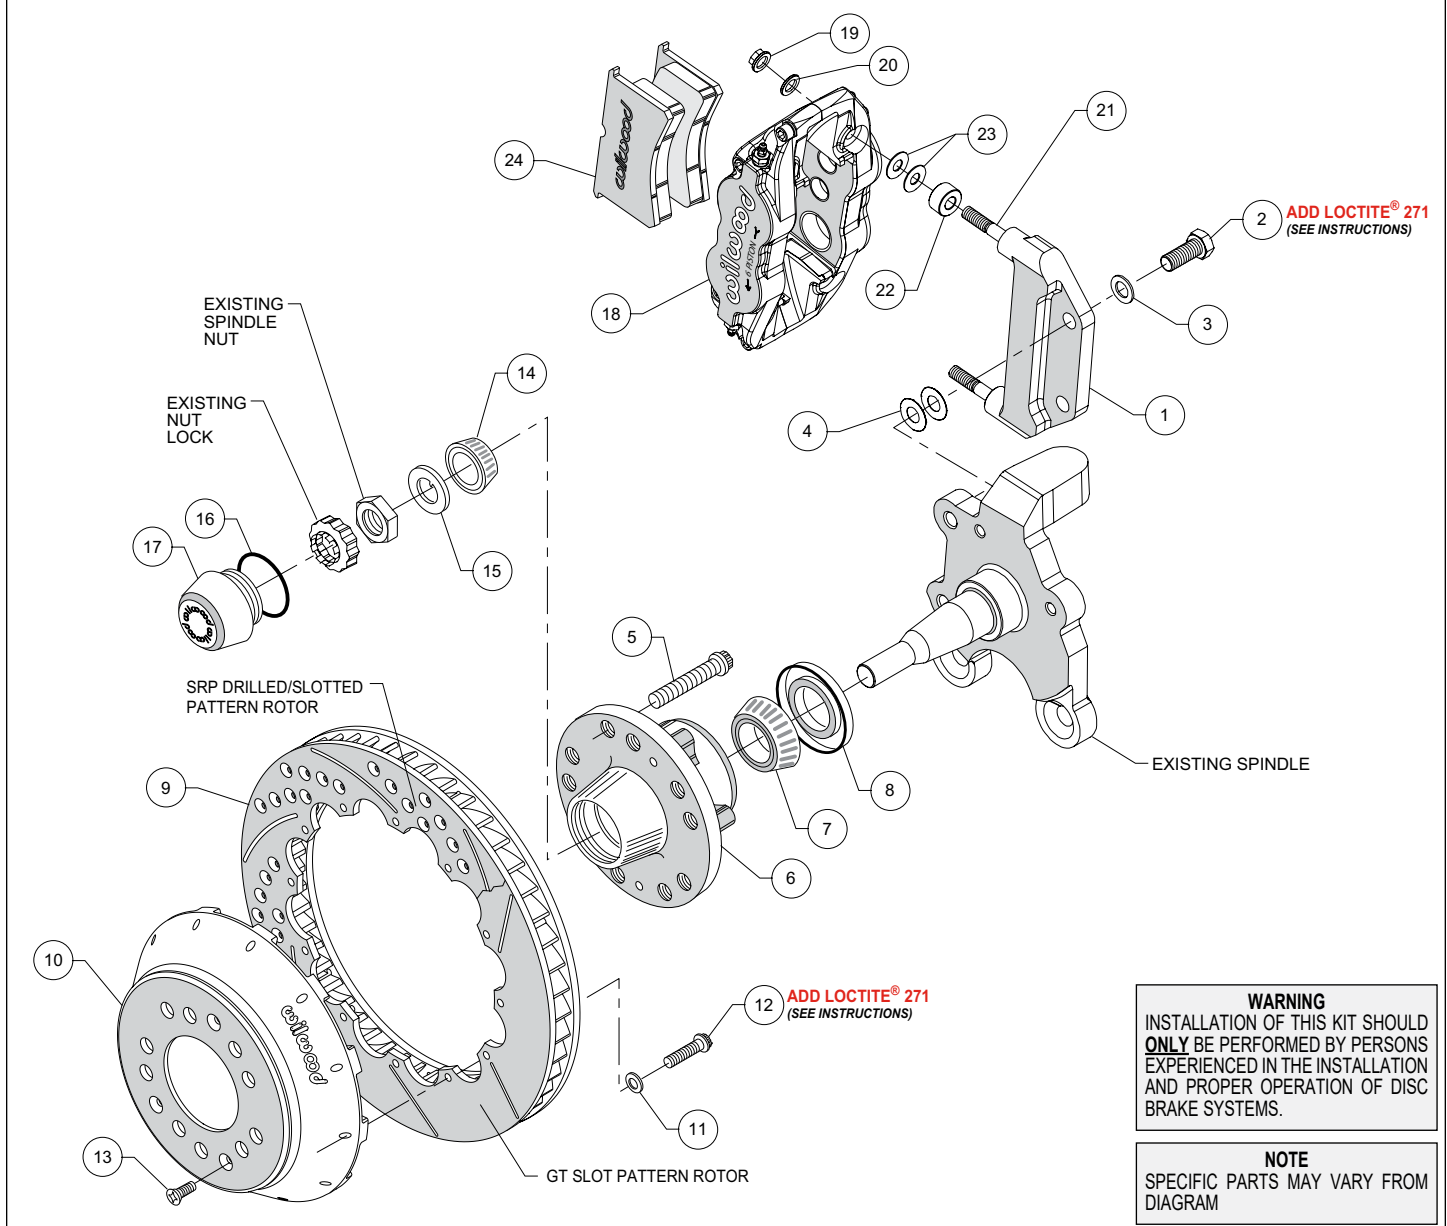
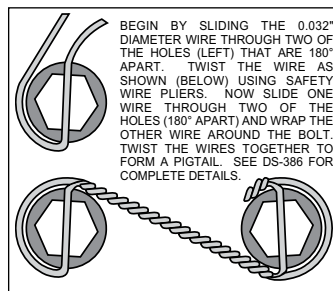

Figure 1. Typical Installation Configuration
Figure 3. Safety Wire Diagram
NOTE: Numbers in parenthesis refer to the parts list and Figure 1 on the preceding pages.
- The caliper mount bracket (1) should initially be installed with clean, dry threads on the mounting bolts. Orient the bracket as shown in Figure 1, and install using bolts (2) and washers (3). Initially place two .015" thick shims (4) on each bolt between the bracket and upright, Figure 1 and Photo 1. Temporarily tighten the mounting bolts. **NOTE:** The bracket must fit squarely against the mount bosses on the upright. Inspect for interference from casting irregularities, machining ridges, burrs, etc. Later, after the caliper alignment has been checked, the mount bolts will be secured using red *Loctite*® 271.
- Install wheel studs (5) into the hub (6), Photo 2. Torque to 77 ft-lb. **NOTE:** There are two five lug patterns in the hub (5 x 4.50 and 5 x 4.75). Ensure the correct hub stud pattern is being used to fit the wheel application.
- Pack the large inner bearing cone (7) with high temperature disc brake bearing grease (available from your local auto parts store) and install into the backside of the hub (6), Photo 3.
- Install the grease seal (8) by pressing into the backside of the hub (6), flush with the end of the hub, Photo 3.
- Orient the rotor (9) and the hat (10) as shown in Figure 1 and Photo 4. Attach rotor to hat using bolts (12) and washers (11). Apply red *Loctite*® 271 to the bolt threads and torque to 155 **in-lb** using a criss-cross pattern. For an added measure of security, the bolts may be safety wired using standard 0.032 inch diameter stainless steel safety wire as shown in Figure 3. Refer to Wilwood's data sheet DS-386 (available at www.wilwood.com/Pdf/DataSheets/ds386.pdf) for complete safety wire installation instructions.
- Pack the small outer bearing cone (14) with high temperature disc brake bearing grease and install into hub (6). Slide the hub assembly onto the spindle. Secure using spindle washer (15) and OEM spindle nut, Photo 5. Adjust bearings per OEM specifications. Install saved OEM nut lock (if any) and a new cotter pin (not included).
- Screw dust cap (17) into hub (6), Photo 6. Friction created by the o-ring (16) on the dust cap keeps it from unscrewing. **NOTE:** The O.D. of the existing OEM spindle washer may be larger than the I.D. of the dust cap not allowing it to seat against the hub face. Therefore, use the spindle washer (15) supplied with the kit instead of the OEM washer.
- Slide the hat/rotor assembly (9/10) onto the hub (6) taking care to align the small countersunk holes in the hat with the small threaded holes in the hub. **NOTE:** The hat must fit flush against the hub face or excessive rotor run out may result. Install three flat head screws (13) through the small holes in the hat, Photo 6, and torque to 85 **in-lb**.
- NOTE:** This kit contains distinct right and left hand calipers that must be mounted in a specific direction, as described below. Initially place two .035" thick shims (23) and one spacer (22) on each stud (21) between the caliper and the bracket, as shown in Figure 1 and Photo 7. Mount the caliper (18) onto the bracket (1) using lock nuts (19) and washers (20), Figure 1. Ensure that the